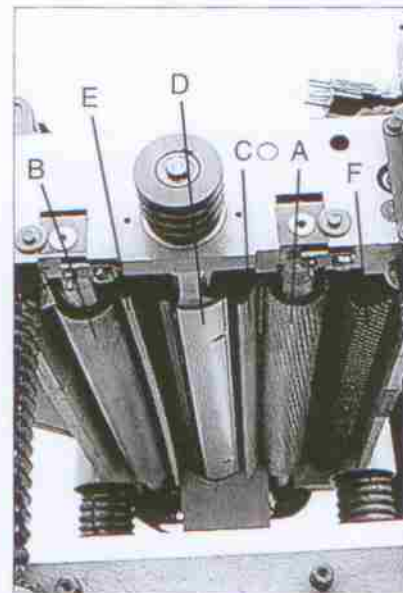

Fig.27
The infeed roller(A) and outfeed roller(B) Fig.27 are those parts of your planer that feed the stock while it is being planed.The infeed roller and the outfeed roller are under spring tension and this tension must be sufficient to feed the stock uniformly through the planer without slipping but should not be too tight that it causes damage to the board.